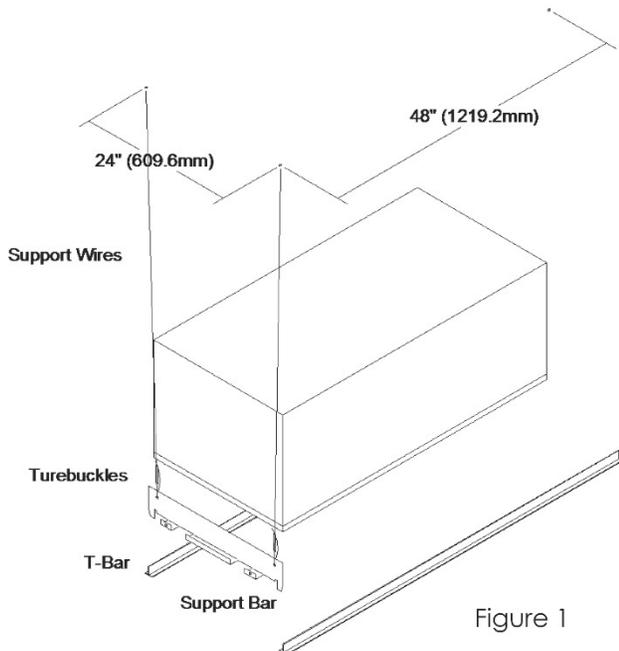

Figure 1
- Attach four galvanized steel support wires to the true ceiling at the location shown in Fig. 1. Twist each wire at least four times to provide safe support for the air cleaner. The free wire end should extend six inches or more below the bottom of the T-bars.
- Hook the turnbuckles to the hanger brackets and then secure the support wires to the eyes of the turnbuckles. Twist the wire at least four times. See Fig. 1.